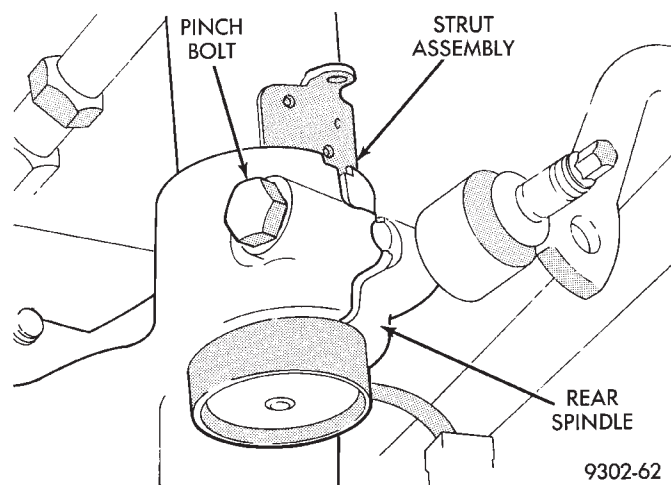

Fig. 10 Spindle To Strut Assembly Pinch Bolt
(8) Loosen and fully remove, the rear spindle to strut assembly pinch bolt (Fig. 10).